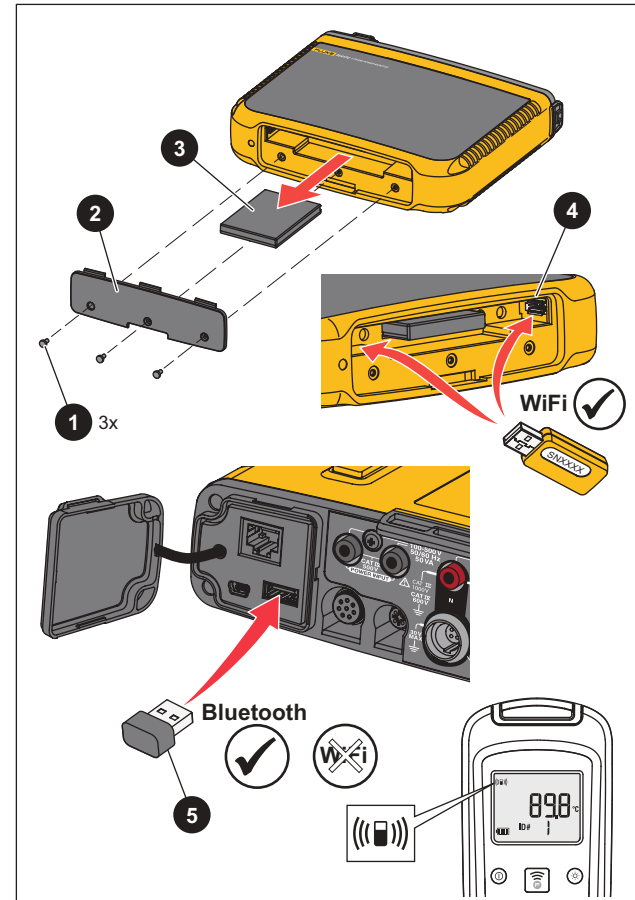

Figure 1. Adapter Installation
1. Remove the three screws in the battery door. See Figure 1.